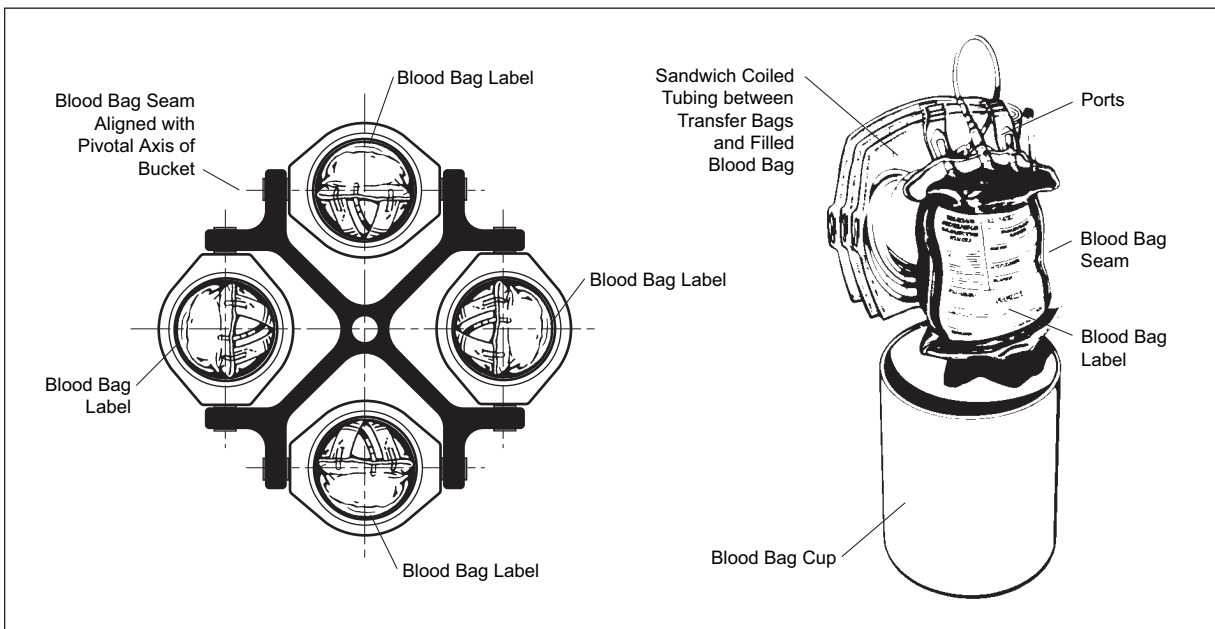

Figure 4. Blood Bag Loading Procedures
2. Sandwich the tubing between the blood bag and any transfer packs (see Figure 4).
4. Place loaded cups into rotor buckets. To reduce the possibility of bag breakage, align the blood bag seam with the rotor pivot pins (see Figure 4) with the label facing out.